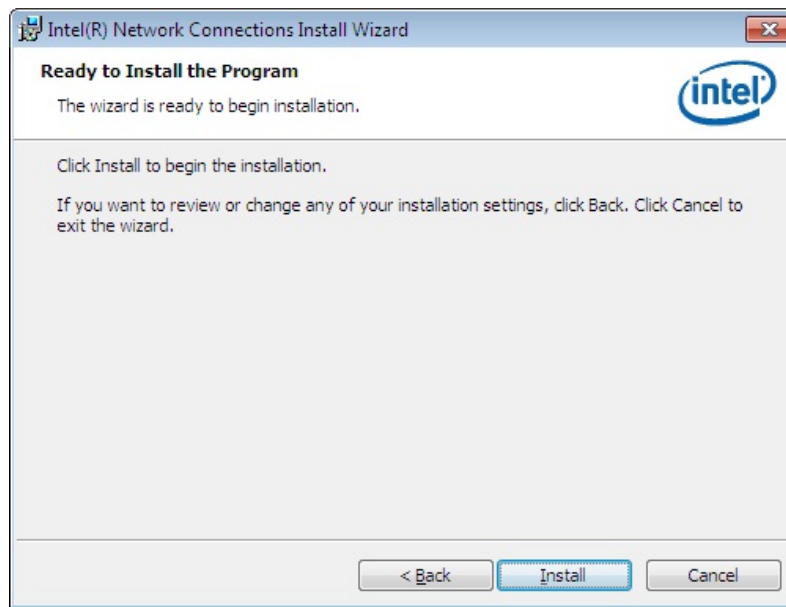

Figure 6-20: LAN Driver Installation
Step 11: The **Ready to Install** screen in **Figure 6-20** appears.